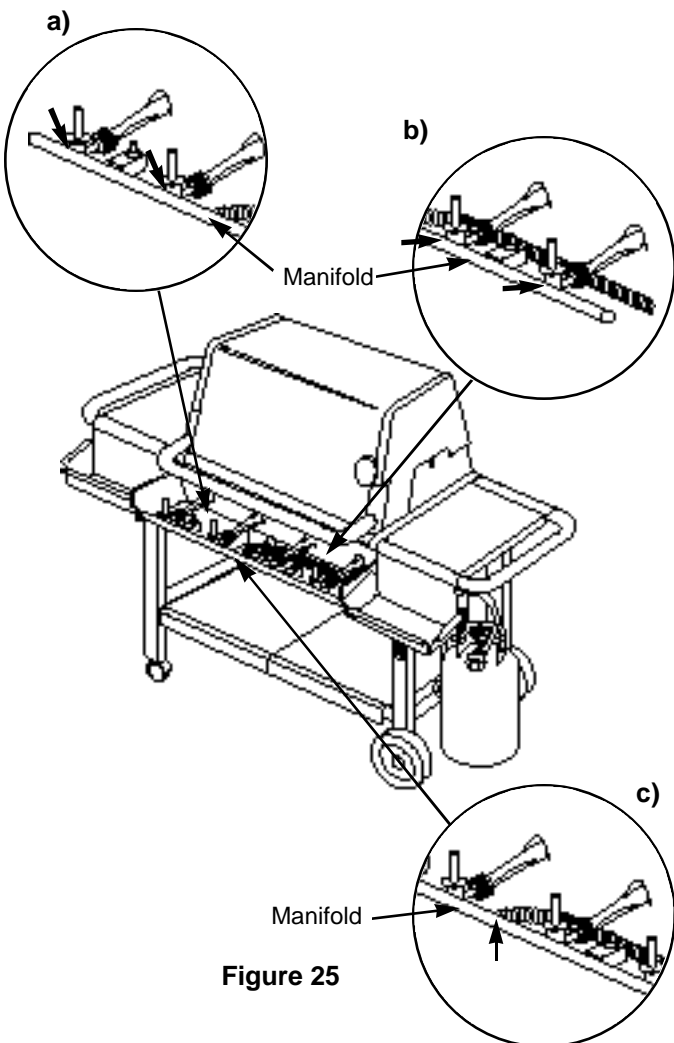

Figure 25
- a) Left valves to manifold connection. Figure 25 (a).
- b) Right valves to manifold connection. Figure 25 (b).
- c) Gas line to manifold connection. Figure 25 (c)